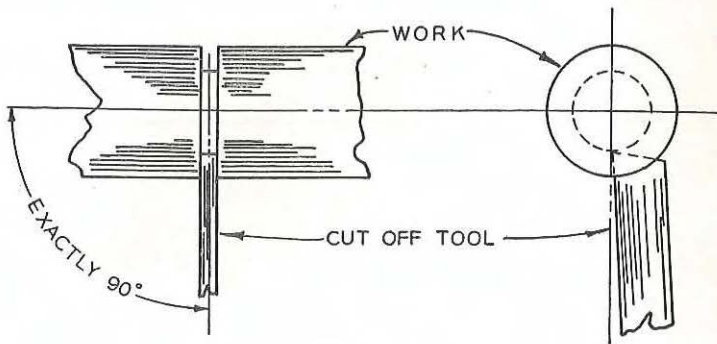

FIG. 214
Quick, clean cutting-off requires careful machining and a properly ground tool. The cut-off tool must be set into the work at an exact right angle and with the cutting edge on dead center (see Fig 214).
1. Set the cutting edge of the tool on the lathe center line—the tool blade should be at an exact right angle with the work (Fig. 214.)